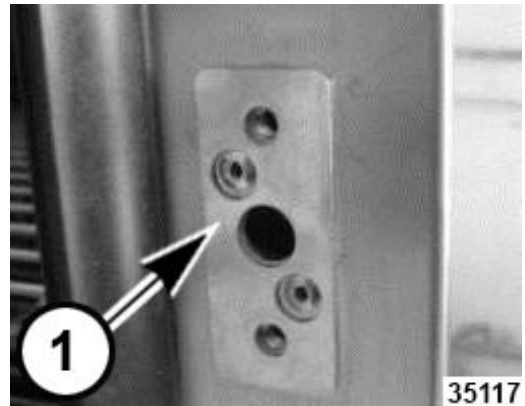

Fig. 47
3. Remove catch and shims (1, Fig. 47).